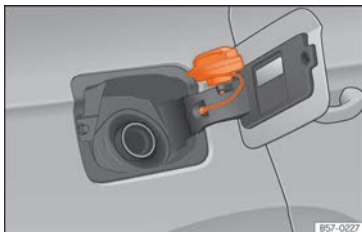

Fig. 217 Fuel tank flap with tank cap attached.
- Place it in the space on the hinge of the open flap »» Fig. 217.